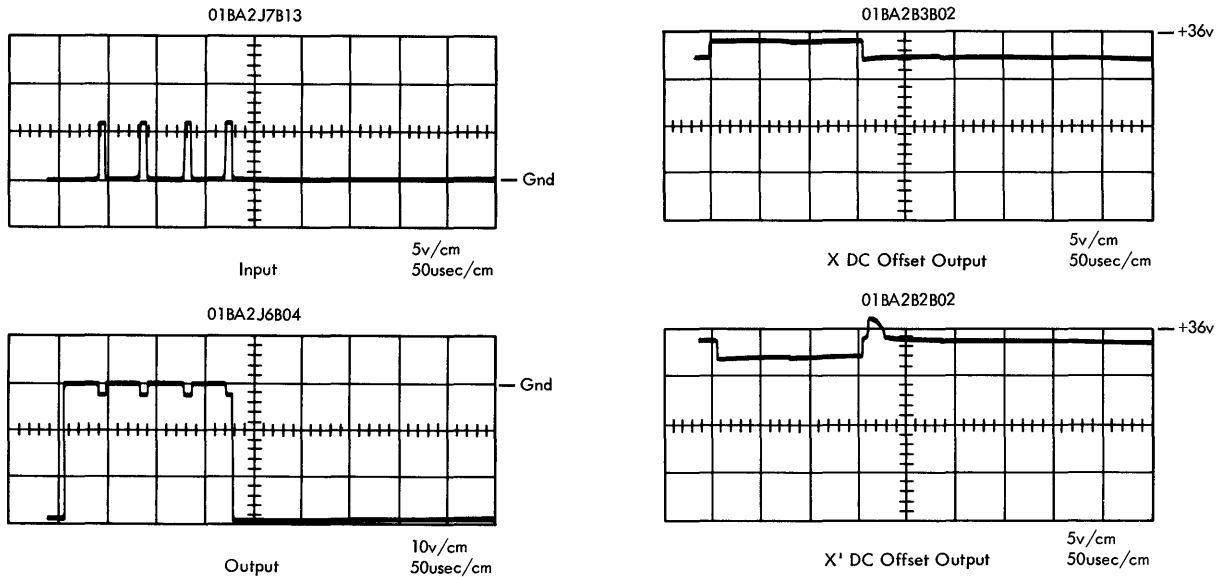

Figure 1-16. Blank-Unblank Waveforms
24. Observe blank-unblank waveforms at 01BA2J7B13 and 01BA2J6B04. They should be as shown in Figure 1-16.